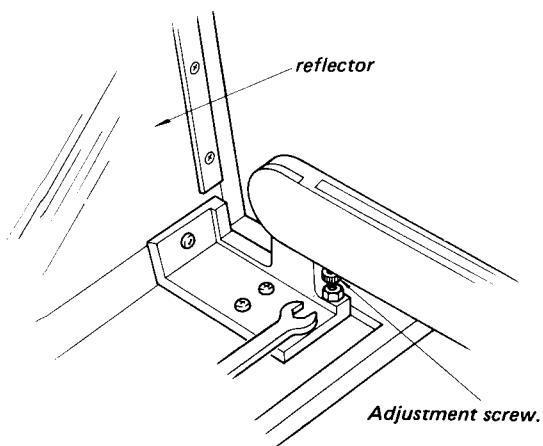

Fig. 3-15
- D) Adjust the screw so that the picture is at the center of the screen as shown in Fig. 3-15.
- E) Make the V. CENT (RV5502 <R>) and the V. SIZE (RV5501 <R>) adjustments. (Fig. 3-15)